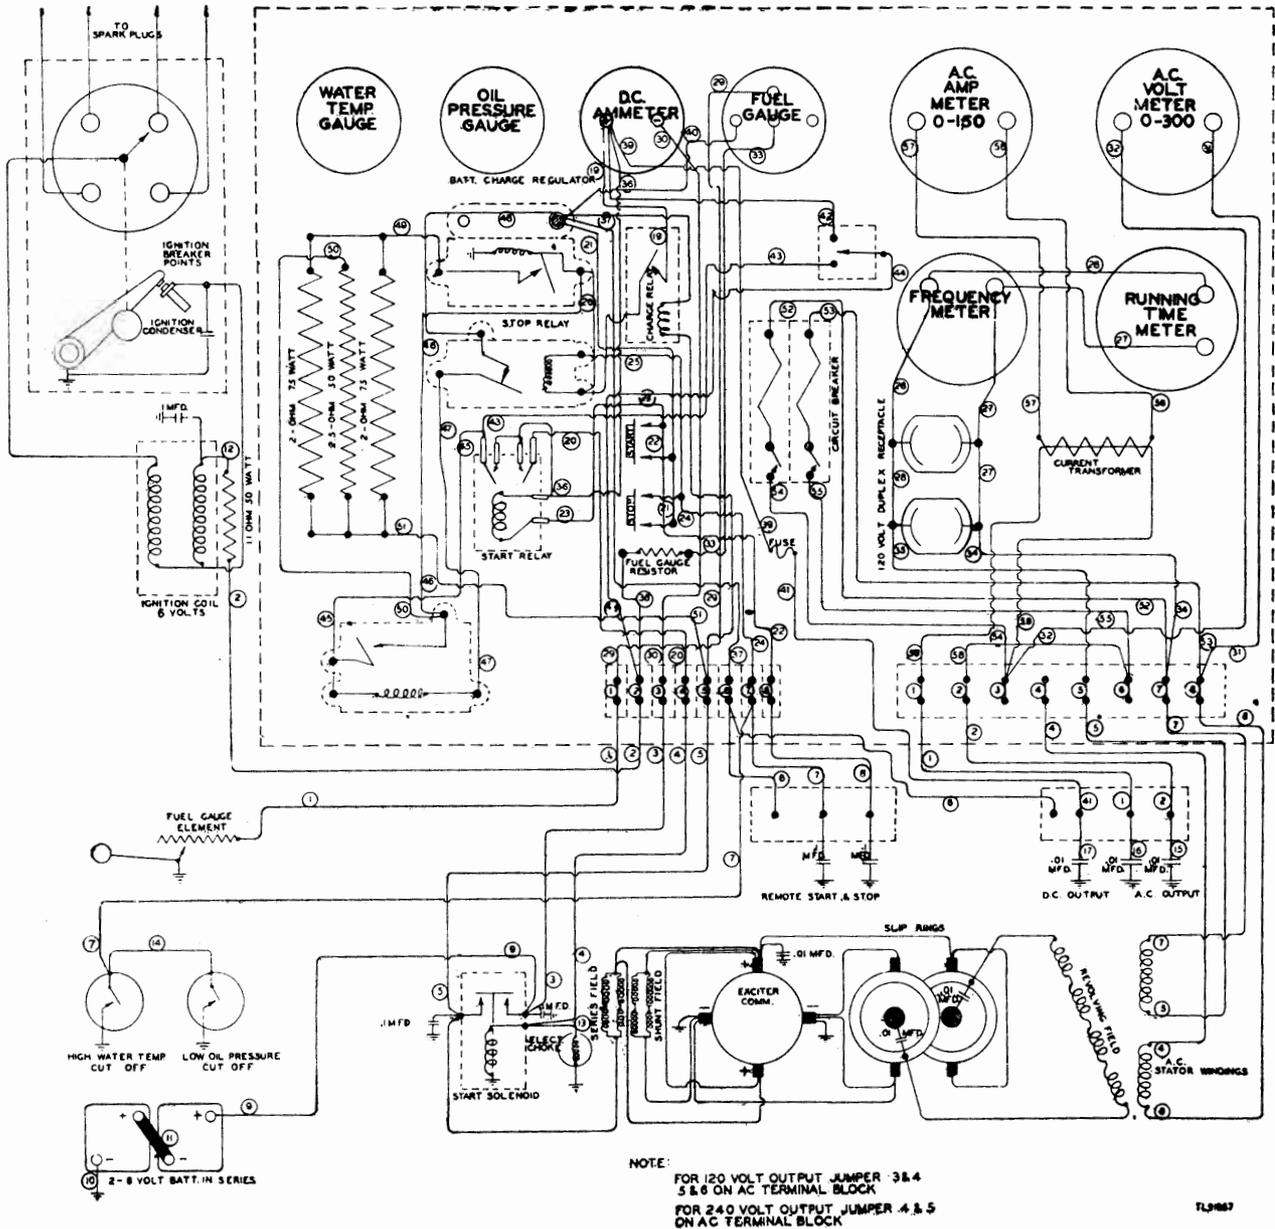
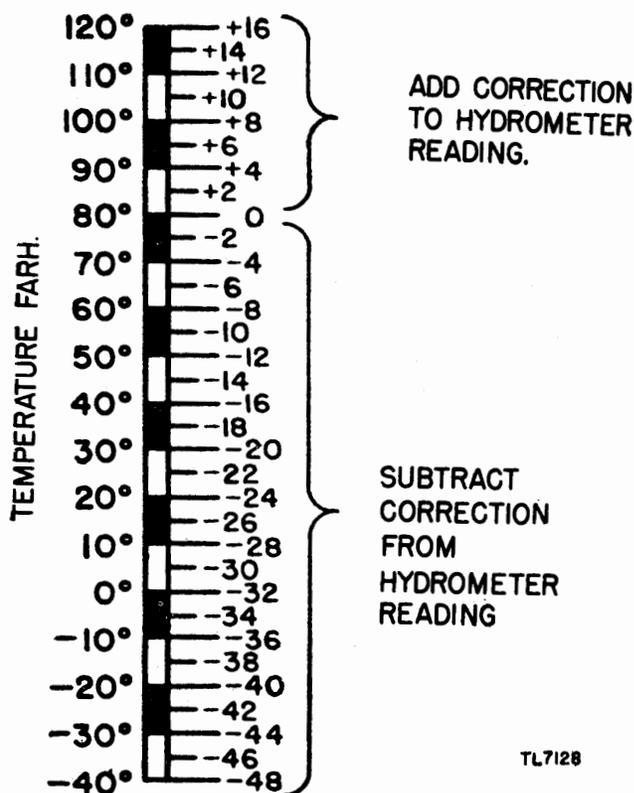

Figure 30. Wiring diagram, Power Unit PE-95-(2).
Figure 33. Corrections for hydrometer readings.
b. POWER UNIT PE-95-(2). See wiring diagram, figure 30.
b. USE OF BATTERY HYDROMETER. The battery hydrometer is provided with a graduated float. This float is usually graduated from 1.100 to 1.325. A fully charged battery will normally show a specific gravity reading of between 1.275 and 1.295 when the temperature of the battery solution (electrolyte) is 80° F. Corrections of hydrometer readings must be made to compensate for temperatures above or below 80° F. The accompanying table (fig. 33) indicates the correction necessary for various temperatures of the battery solution.
b. **TESTING WINDINGS.** (1) *General.* Most of the following testing instructions may be accomplished without disassembling the generator. In each instance where an exciter armature winding or an alternator field winding test open-circuited, short-circuited, or grounded check to see if the trouble is in the leads outside of the winding proper, and if not, report the trouble to the proper authority. These tests require a 6- or 12-volt battery, a 3- to 4-candle power, 6- or 12-volt lamp, two test leads with prods and a lamp socket in series, with one test lead as illustrated in figure 33. Before starting the tests, remove the cover from the exciter, lift all brushes high in their holders, and set the ends of the springs against them, so that the brushes will be held up. Disconnect the four stator winding cables from posts No. 4, 5, 7, and 8 of the a-c terminal block and the large exciter cable from the right-hand terminal of the solenoid starting switch. See the wiring diagram (figs. 30 and 31). Tag the cables in order to avoid error in replacing them. In using the test prods, make sure that good electrical connection is made at points of contact.